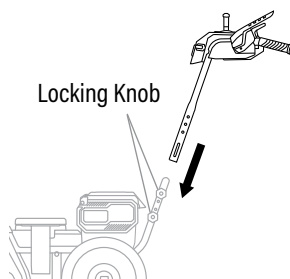
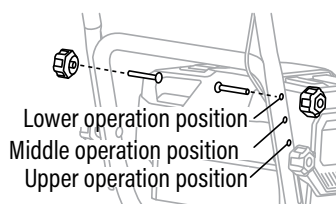

Fig. 2B
Fig. 2C
2. Lift the upper handle assembly, align the holes in the side rails with the holes in the lower handle. There are three height adjustment holes in the handle, select the preferred operating position according to your height (Fig. 2C). Secure the handle assembly with the bolts and locking knobs. (Fig. 2B)
1. Loosen the two upper locking knobs and remove the two bolts (Fig. 2C). Save them for reassembly.